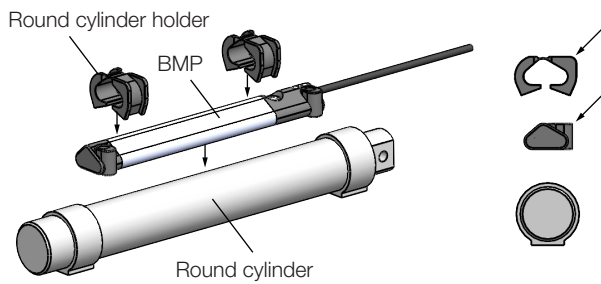

Fig. 4-8: Attaching holder to the BMP
1. Clamp round cylinder holder to the BMP. When doing so, be aware of the orientation of the holder (see Fig. 4-8).